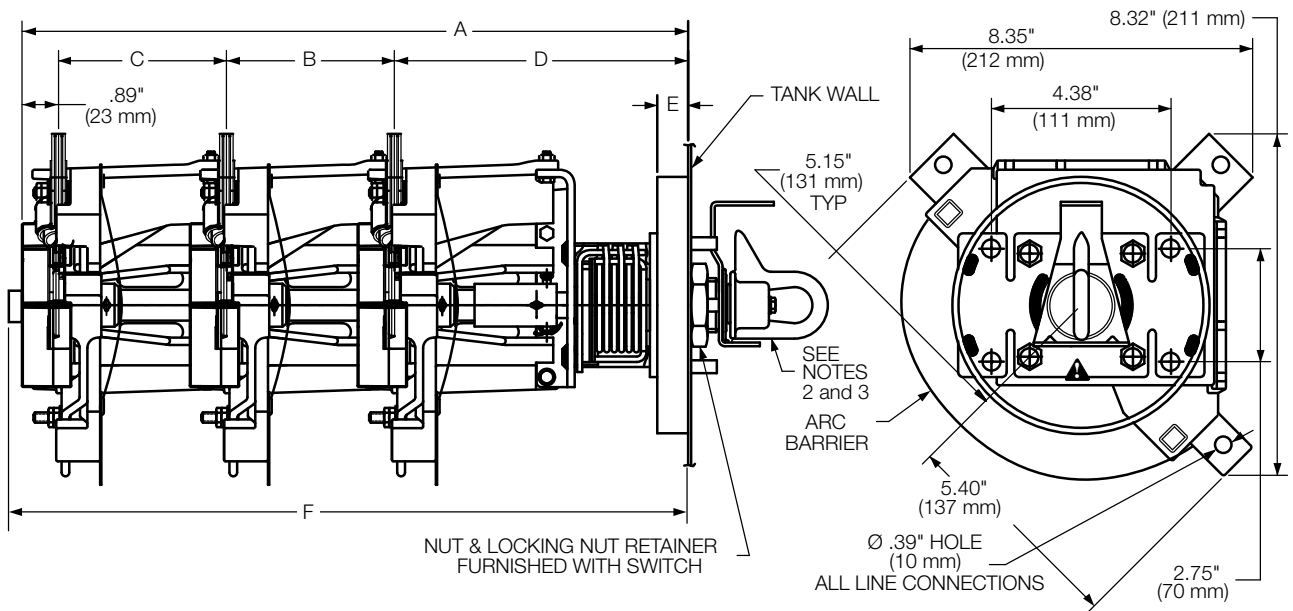

Figure 3. Line illustration with dimensions of sectionalizing switch with "Ring-Mount System."
1. Dimensions given in Figure 3 and Table 3 are for reference only.